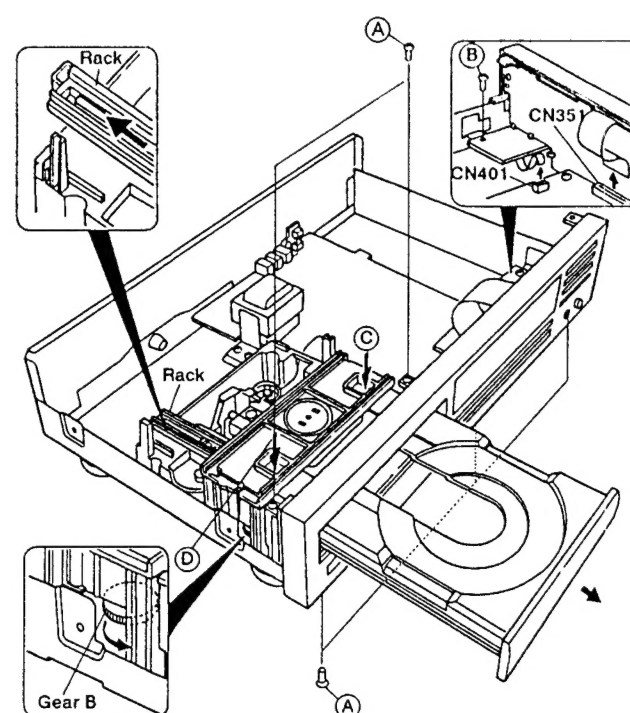

Fig. 2-2
- ① Turn the POWER switch ON, and open the tray by the OPEN/CLOSE key. (Refer to the Note 1 when opening the tray by hand-operated.)
- ② Pull out the tray slowly by pushing the nail of the tray section from two holes ③ and ④ of the clamber base (Fig. 2-2). (It is necessary to push the nail of the tray section at the front panel portion.)
- ① Remove five screws ① (Upper side is two screws and under side is three screws.) to the front panel.
- ② Remove a screw ② to the Headphone board assembly (Fig. 2-2).
- ③ Disconnect two connectors CN351 and CN401 from the Mother board assembly (Fig. 2-2).
- ④ Remove the front panel and the Headphone board assembly together.
- ① Turn the gear B slowly in the direction of arrow by ⊖ screwdriver with care not to damage the gear B (Fig. 2-2).
- ② Turn gear B until the tray starts to move in the direction of the OPEN position.
- ③ Move the tray to the OPEN position by hand.